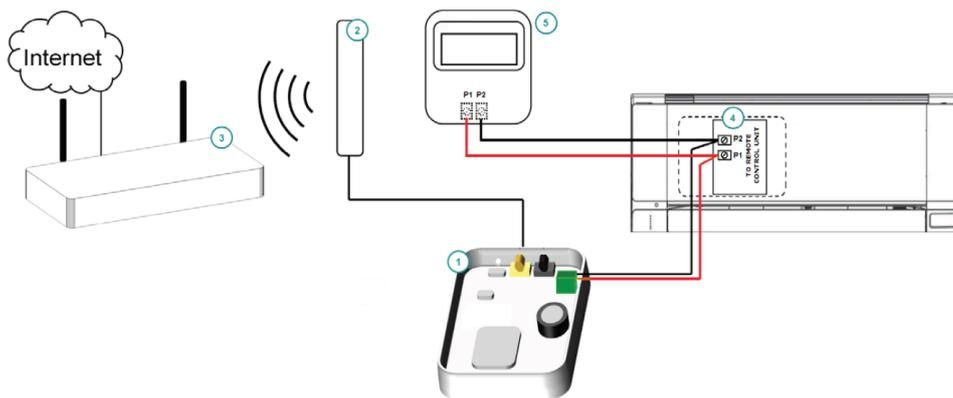

Figure 46. IntesisBox DK-RC-WMP-1 connections.
2. Connect IntesisBox device K1 connector to Daikin's Indoor Unit P1P2 connector or Wired Remote Control (if present) (Figure 46).
6. Place the antenna preferably in a vertical position and pointing directly to the Wi-Fi Router or Access Point (AP).